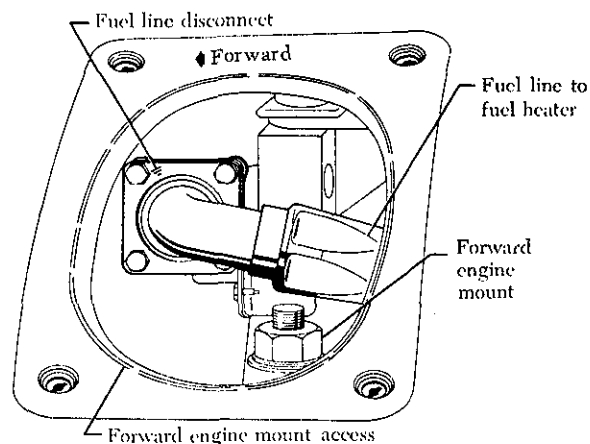

FIGURE 8-17. Fuel line disconnect.
- (7) Disconnect the fuel line by removing the bolts from the hose flange (figure 8-17).